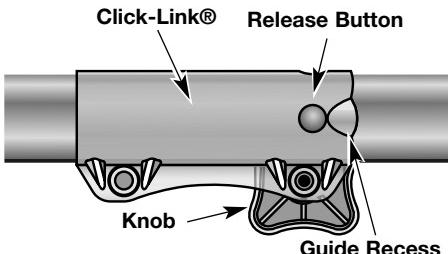

Fig. 12
1. Loosen the knob counterclockwise (Fig. 12).
**NOTE:** Aligning the release button with the guide recess will help installation (Fig. 12).
2. Press and hold the release button (Fig. 12).